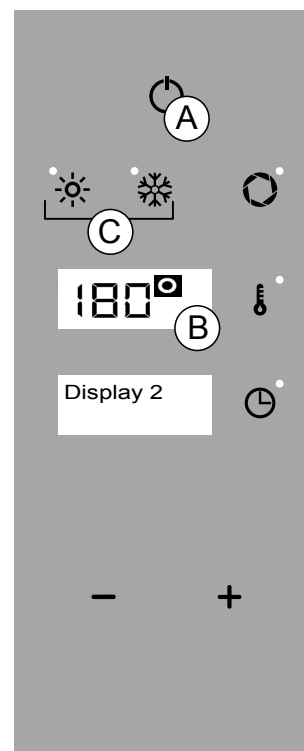

Fig.3
GAS BURNER on / °C flashing - GAS BURNER Off / °C steady (Fig 3/B)
Press the "ON/OFF" key to activate the main menu (Fig 3/A).
Press the desired function (Fig 3/C).
1. In main menu mode press "ON/OFF" (Fig 3/A).